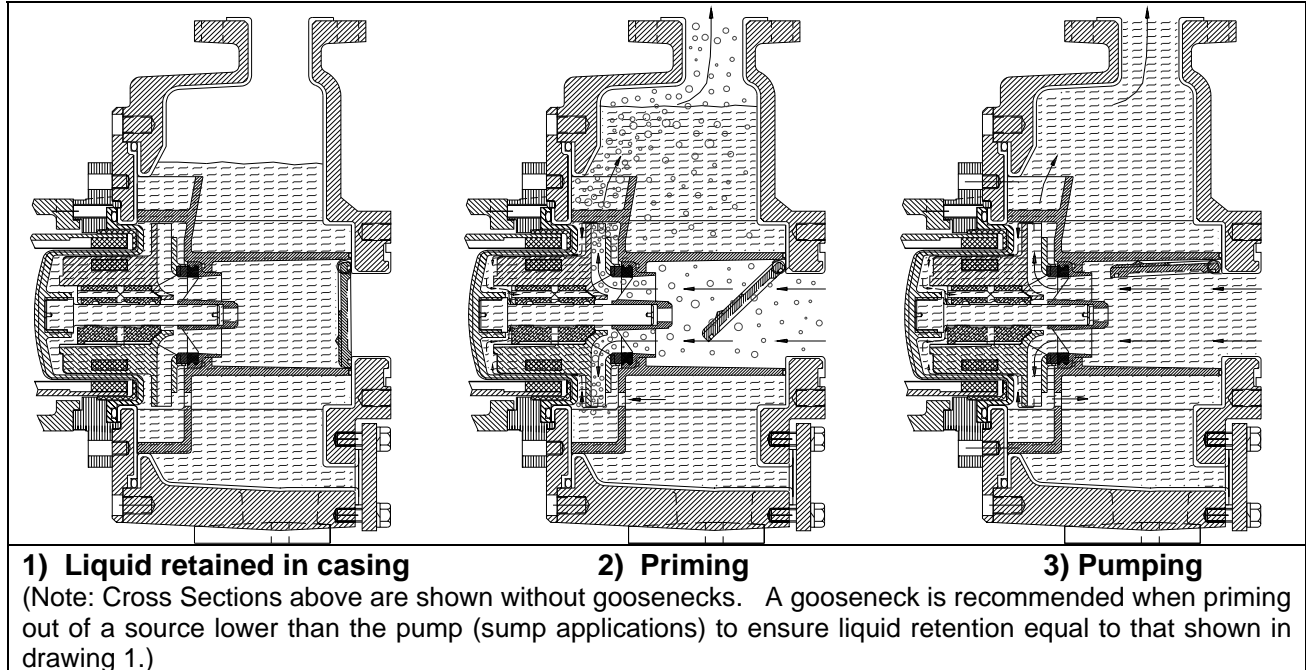

Figure 5-1 KP Priming
- 3) During priming the pump cannot produce more than 10 psi discharge pressure. If static discharge pressure (pressure indicated when pump is off) is greater than 10 psig, an alternate, valved air bleed line (1/2" to 1") is required, allowing the pump to exhaust freely back to the tank. (Figure 5-1) A check valve is recommended above the bleed line in this scenario; however, **DO NOT** install a check valve if no bleed line is being used. (Use a standard full port ball valve instead.)